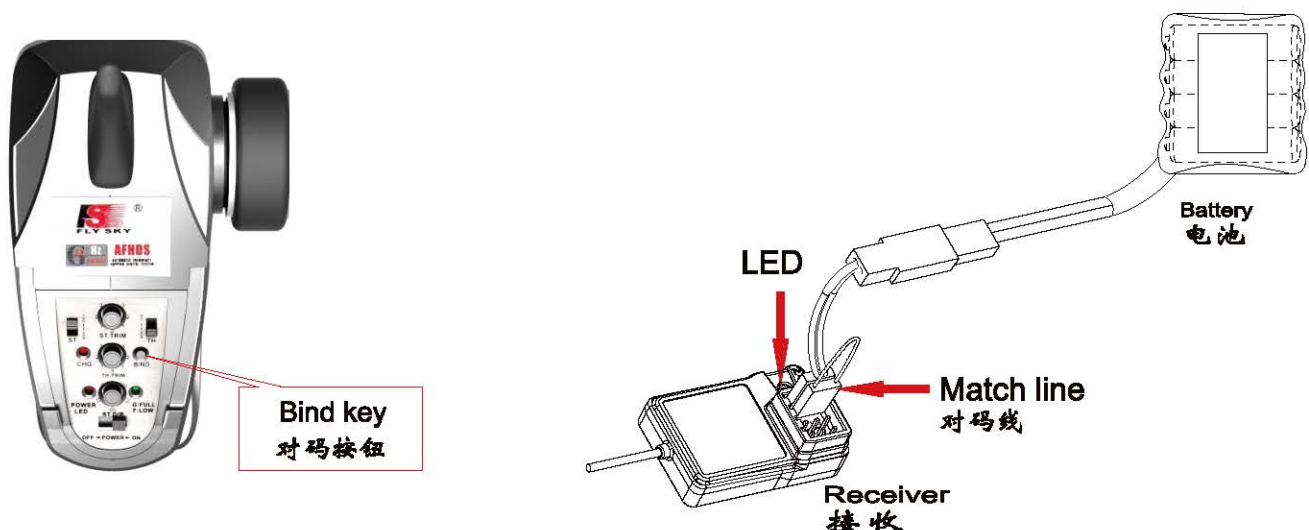

Figure 1 (图1)
- B. Insert the matching lines to the channel BIND / CH3 port of the receiver. (Figure.1).
2. 将配对线插入接收机的BIND/CH3通道接口（如图1）。